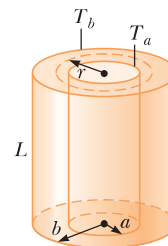

Figure P20.84
84. (a) The inside of a hollow cylinder is maintained at a temperature  $T_a$ , and the outside is at a lower temperature,  $T_b$  (Fig. P20.84). The wall of the cylinder has a thermal conductivity  $k$ . Ignoring end effects, show that the rate of energy conduction from the inner surface to the outer surface in the radial direction is